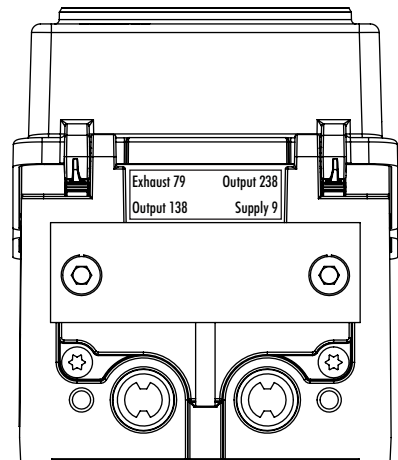

Fig. 5-29: Output 238 and Exhaust 79 sealed with dummy plate
- Seal Output 238 and Exhaust 79 with a dummy plate (see Fig. 5-29) if only one pneumatic output is available.
The signal at output 138 is used to control a single-acting pneumatic actuator. The outputs 238 and 79 are sealed (see Fig. 5-29). The air capacity can be doubled by using two pneumatic modules.